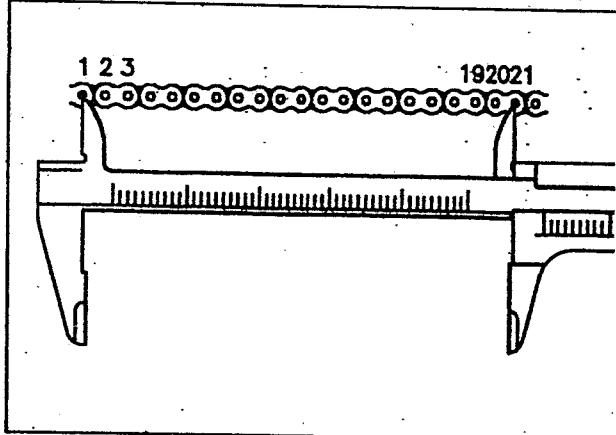

Fig 2.36
- Tense the drive chain carefully by tightening the adjuster bolts (4) on left as well as on the right hand side.
- Count out 21 pins (over 20 pitches) on the chain and measure the distance. If the distance exceeds 259.0 mm, the chain must be replaced (fig 2.36)